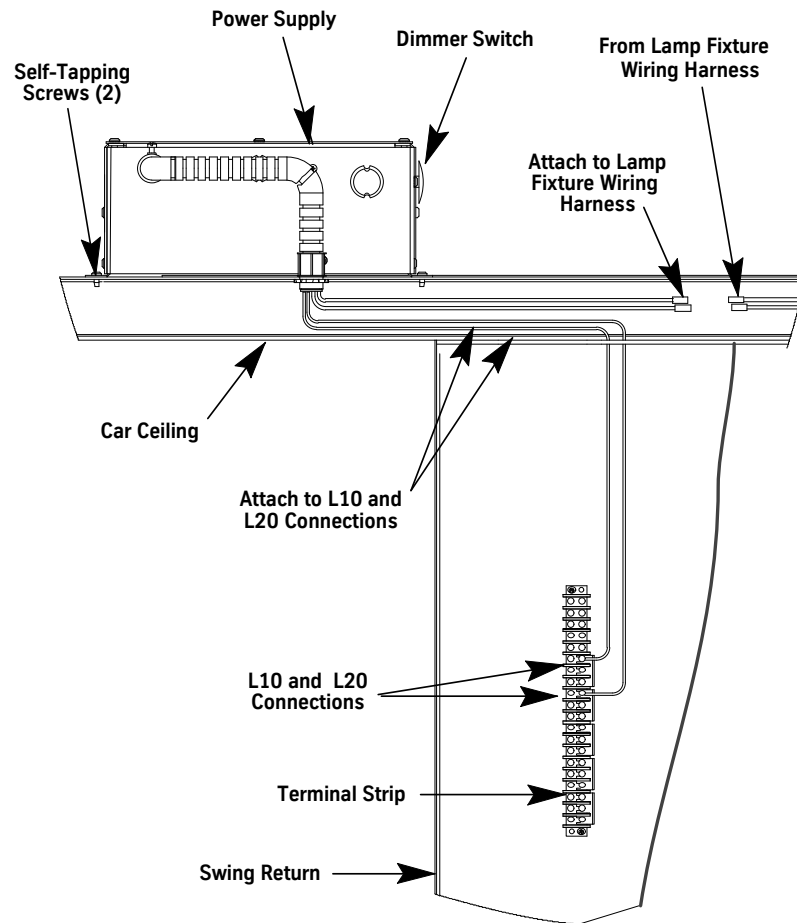

Figure 2 - Power Supply with Harness
3. Connect these harnesses to the downlight. See Figure 2 on page 9 for this and all steps in the following procedure.